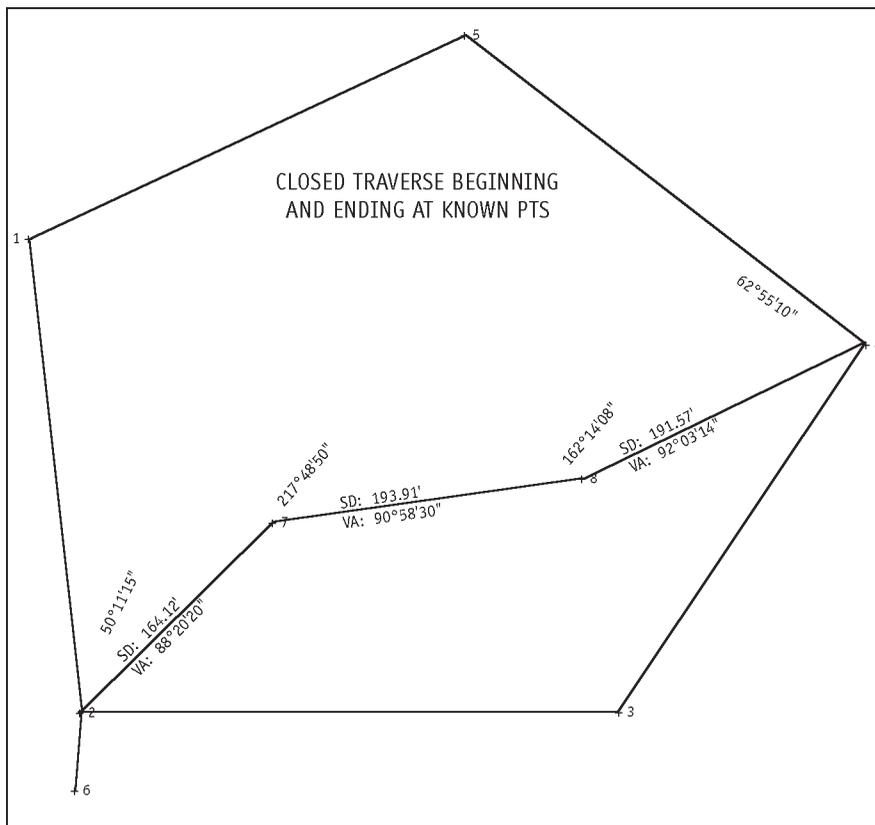

Figure 2 - Closed Traverse Beginning and Ending at Known Points
- 2) Closed Traverse Beginning and Ending at Known Points - Adjustment available. *See Figure 2.*